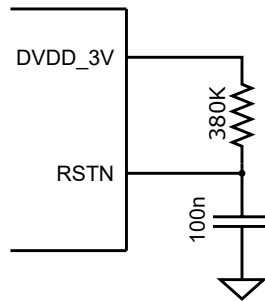

Figure 4: Alternative reset network.
- Connect CS_N, SCK, MOSI, MISO and IRQ to your MCU. Use of RSTN and/or SHUTDOWN is optional. If not used, connect SHUTDOWN to GND, and RSTN to an RC network as shown in Figure 4.